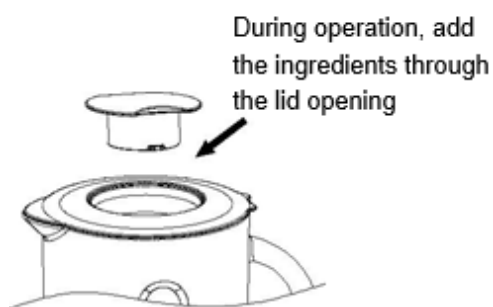

Fig.7
- If you want to add ingredients while the blender is on, remove the cap and place through the lid opening. (See Fig.7)